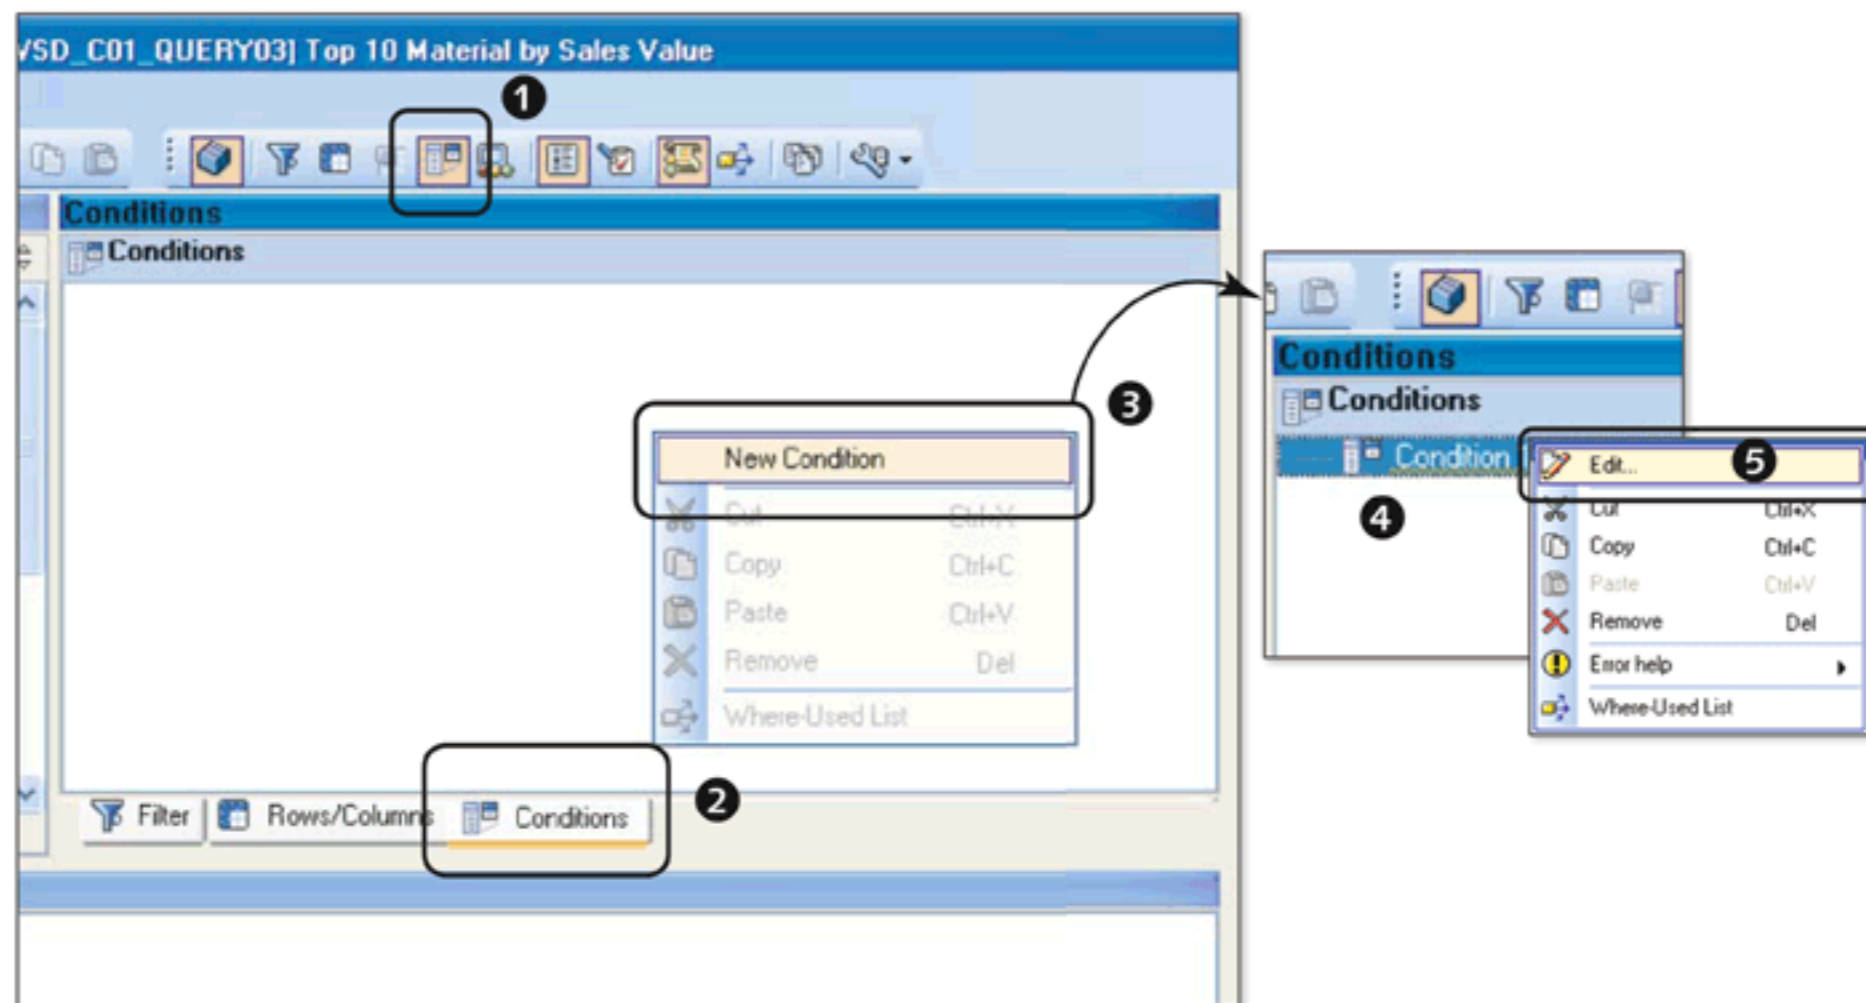

Figure 9.80 Create a New Condition
Conditions are maintained in the CONDITIONS area of BEx Query Designer. To display this area, click on the CONDITIONS icon from the toolbar (1 of Figure 9.80). The CONDITIONS area appears (2).